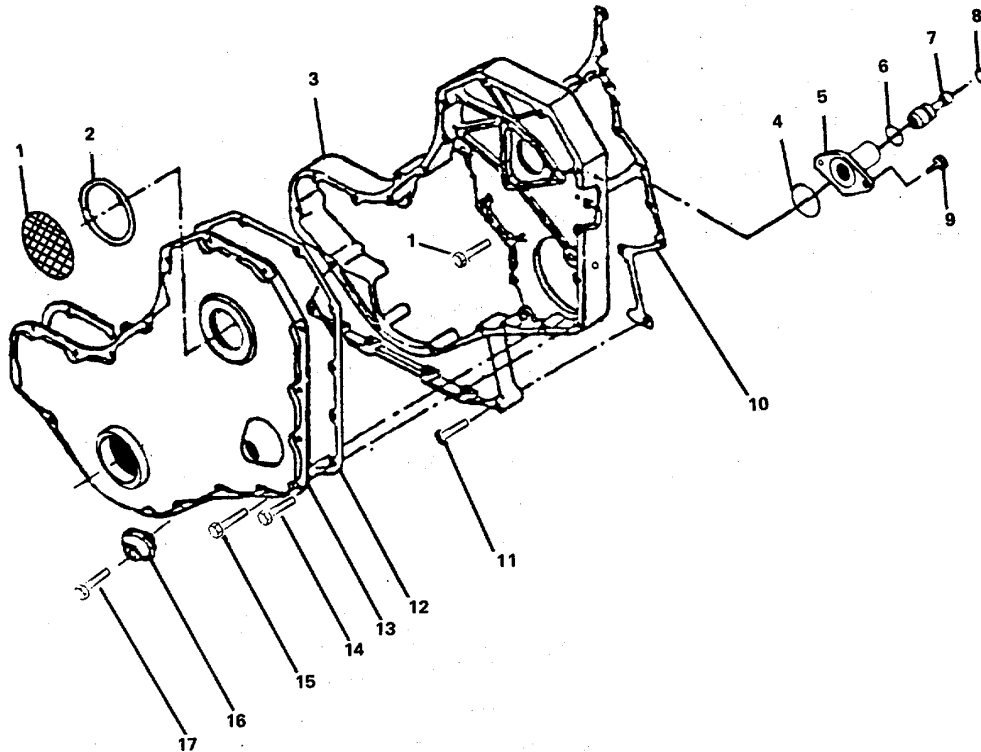

FIGURE 3-51. Front Gear Cover Assembly.
- b. Remove cover access (1, FIGURE 3-51) and gasket (2). Discard gasket.
- c. Remove capscrew (17) and belt retainer (16).
- d. Remove bolts (15, 14) from gear housing (3).
- e. Remove gear cover (13) and cover gasket (12). Discard gasket.
- f. Remove machine bolts (11) from gear housing (3).
- j. Install crankshaft pulley (2, FIGURE 3-51) and secure with four hexhead screws (1). Torque to 101 ft-lb (137 Nom).